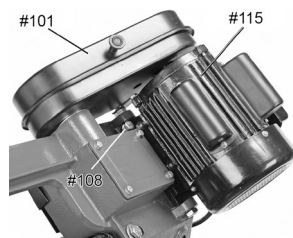

Fig. 28
2. Loosen the Bolt (#108) and press the Motor (#115) toward the Body to release tension on the old V-Belt (Fig. 28).